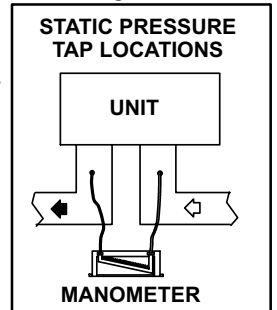

FIGURE 22
- 1 - Measure tap locations as shown in figure 22.